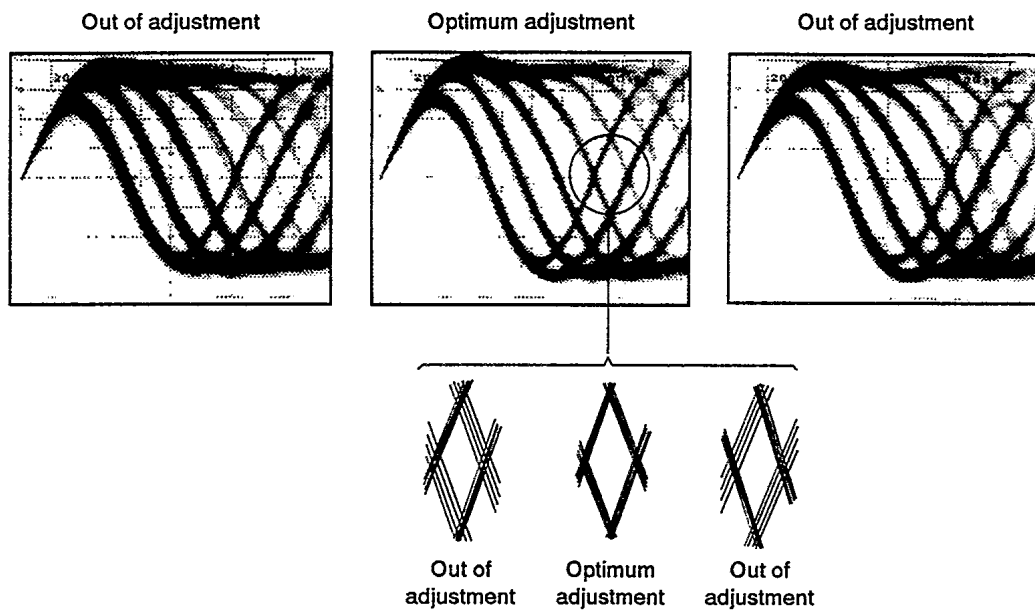

Fig. 3 Eye Pattern
3. Next, adjust the tangential tilt adjustment screw with a Phillips screwdriver so that the eye pattern (the diamond shape at the center of the RF signal) can be seen the most clearly (Fig. 3).